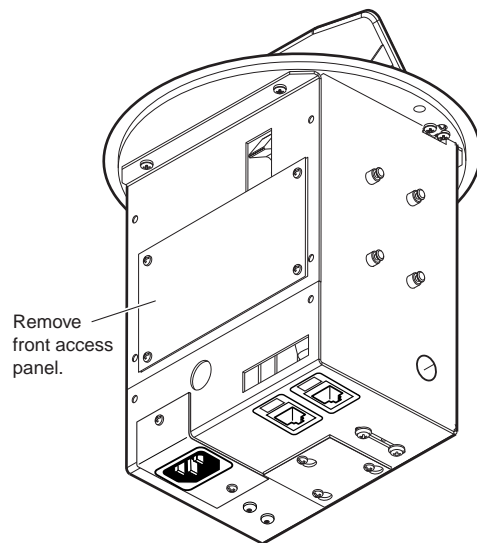

Figure 3-7 — Front access panel removal (HSA 222 models)
7. **(HSA 222 models only)** Remove the four Phillips head screws from the front access panel (figure 3-7). Retain the screws. Lift the panel away from the enclosure.